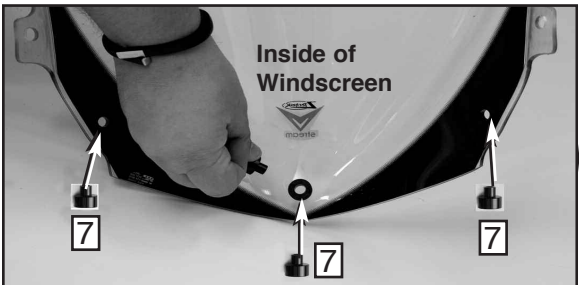

Figure 7
2. Place one Bushing (7) into each front hole on the inside of windscreen. **Figure 7**